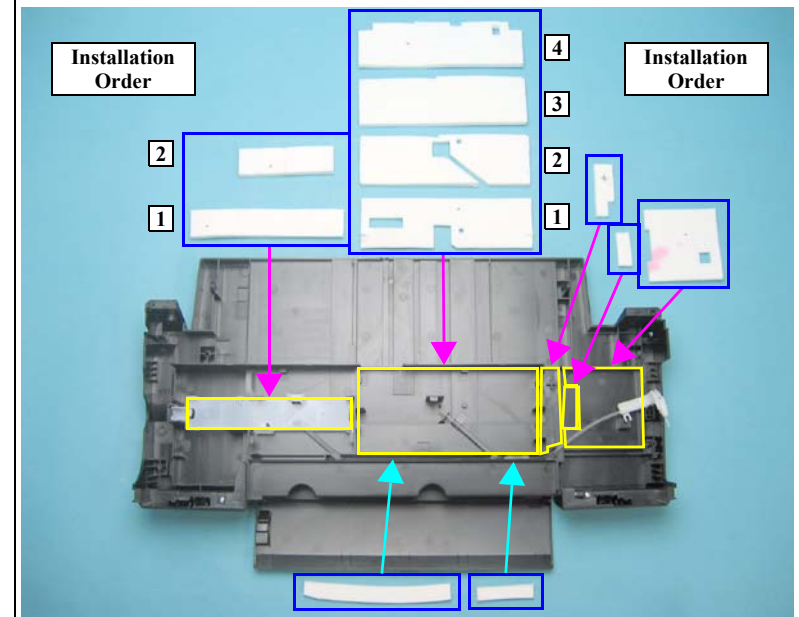

Figure 4-23. Installing the Waste Ink Pads
- Referring to Figure 4-23, correctly install the Waste Ink Pads.